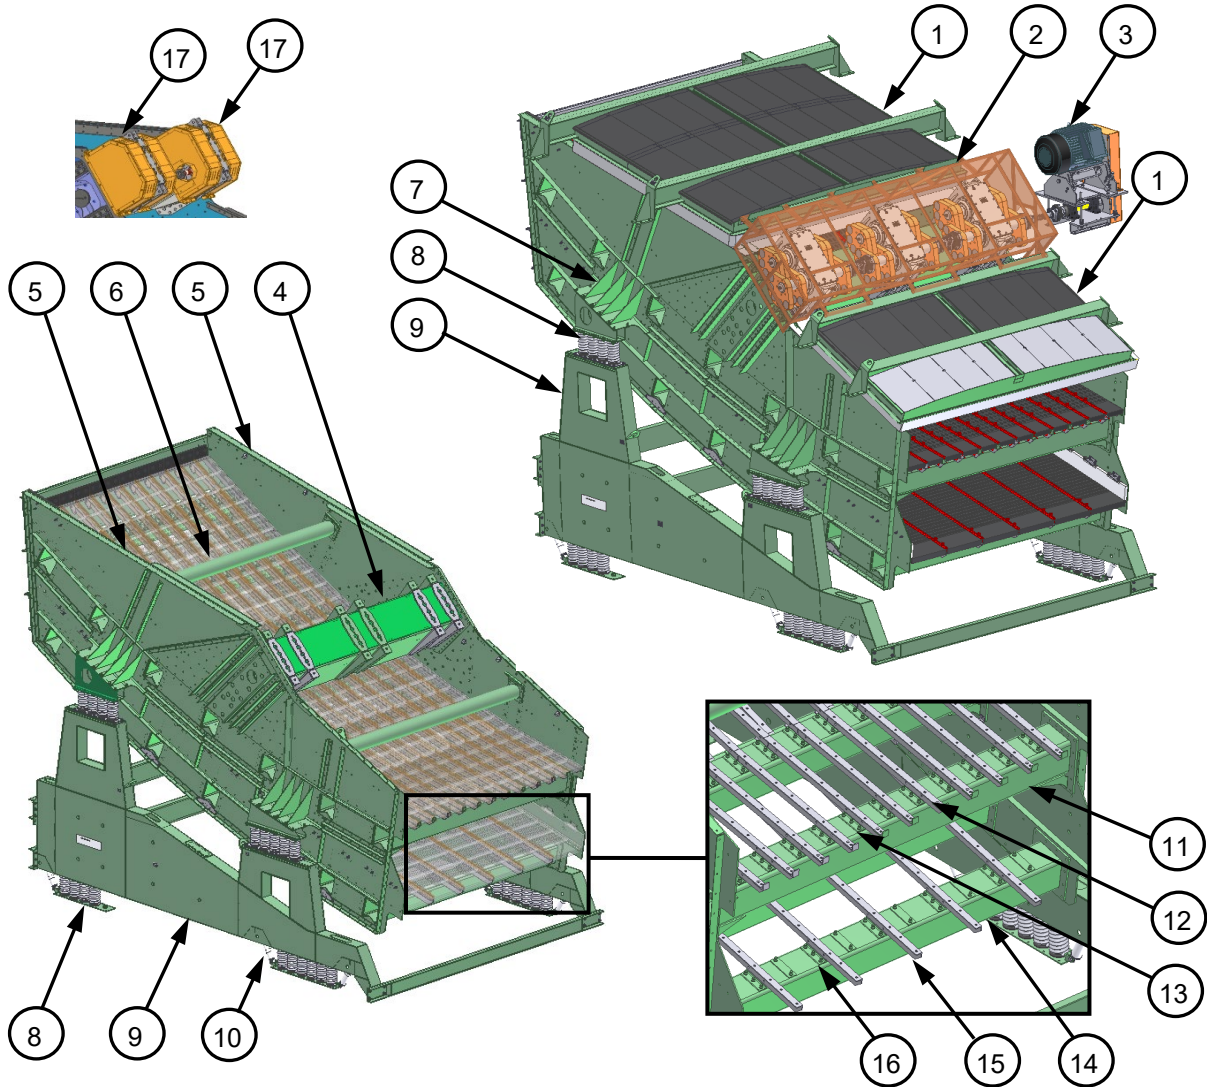

Figure 2.2-1 Main features of a double deck multi slope screen
- Screens pictured in Figure 2.2-1